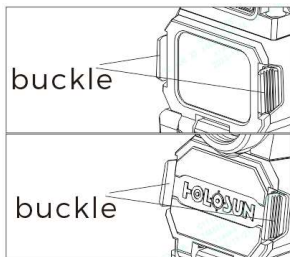

Figure 11
2. To open the front and rear lens covers of the red dot sight, press the latches on both sides of the lens covers inward and the lens covers open. (As shown in Figure 11)